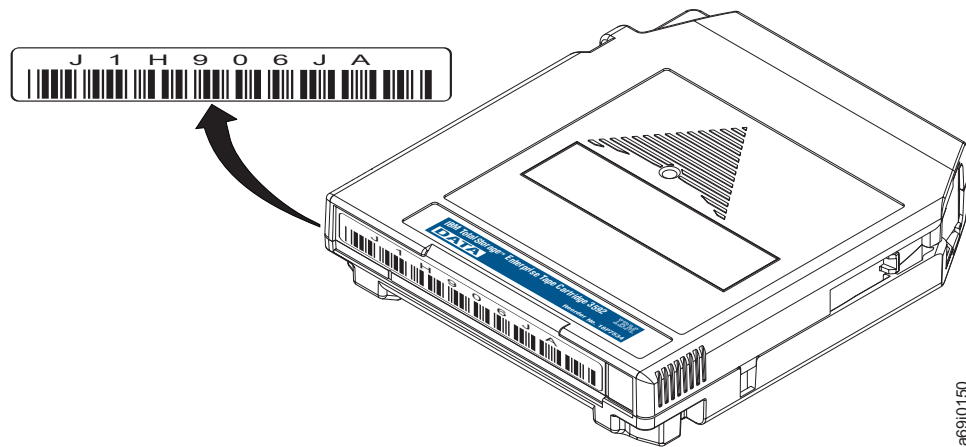

Figure 57. Sample bar code label on an IBM 3592 tape cartridge. The volume serial number (J1H906JA) and bar code are printed on the label.
When read by the library's bar code reader, the bar code identifies the cartridge's VOLSER to the tape library. The bar code also tells the cartridge type: data (JA), extended data (JB), advanced type C data (JC), advanced type D data (JD), economy (JJ), advanced type C economy (JK), advanced type D economy (JL), economy WORM (JR), WORM (JW), extended WORM (JX), advanced type C WORM (JY), advanced type D WORM (JZ), cleaning, or diagnostic cartridge. Figure 57 on page 190 shows a sample bar code label for the IBM 3592 Enterprise Tape Cartridge.
When attaching a bar code label to a tape cartridge, place the label only in the recessed bar code label area (see Figure 57 on page 190). A label that extends outside of the recessed area can cause loading problems in the drive or the library.